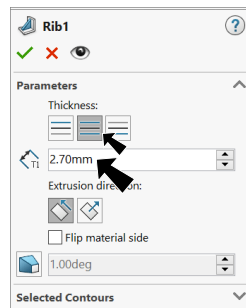

Fig. 25
Step 10. In the Rib Property Manager set: under Parameters, **Fig. 25**